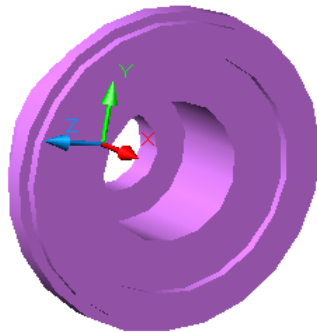

Figure Step 11
Step 11 Using 3D Orbit rotate the model as shown in Figure Step 11.